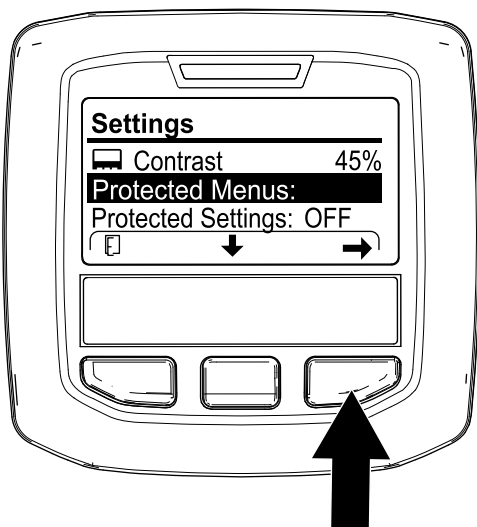

Figure 123
- Press the center InfoCenter button until the PROTECTED MENUS option is selected (Figure 123), press the right button, and enter your 4-digit pin code (e.g. 1 2 3 4).